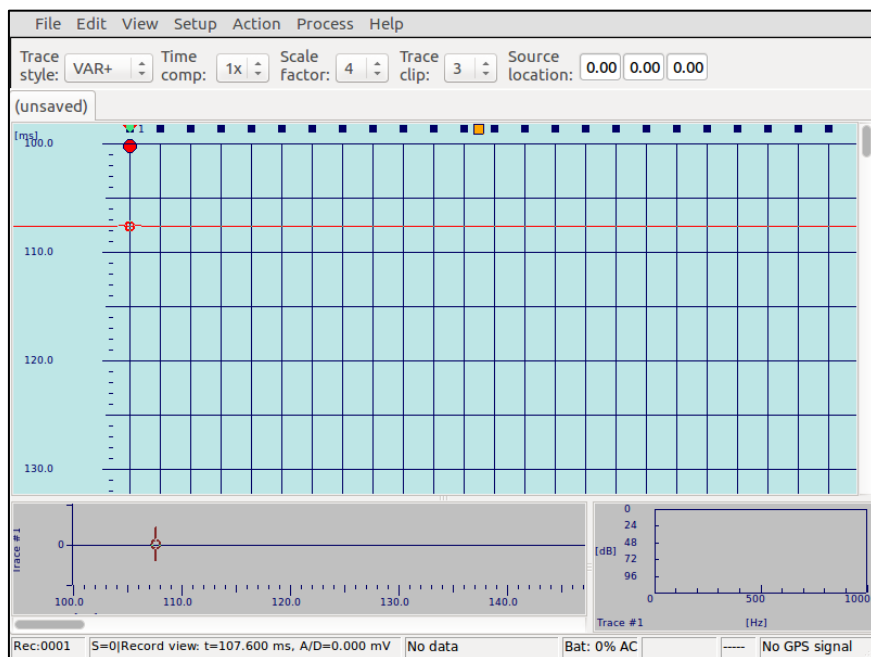

Figure 24 First break marker
- Positioning a first break marker (Figure 24)